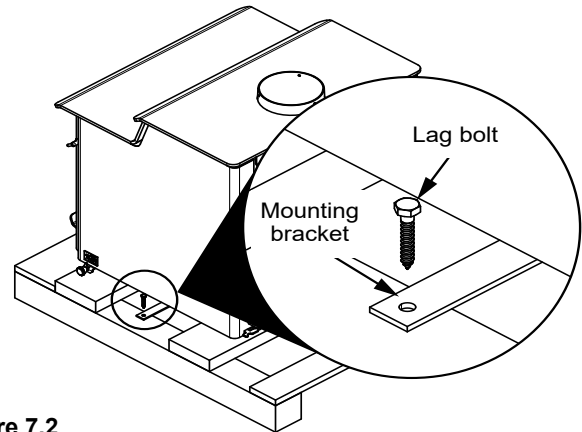

Figure 7.2
2. Using 7/16 inch socket or wrench, remove and discard the two lag bolts from mounting brackets; one on each side, that is attaching the appliance to the pallet (**Figure 7.2**).